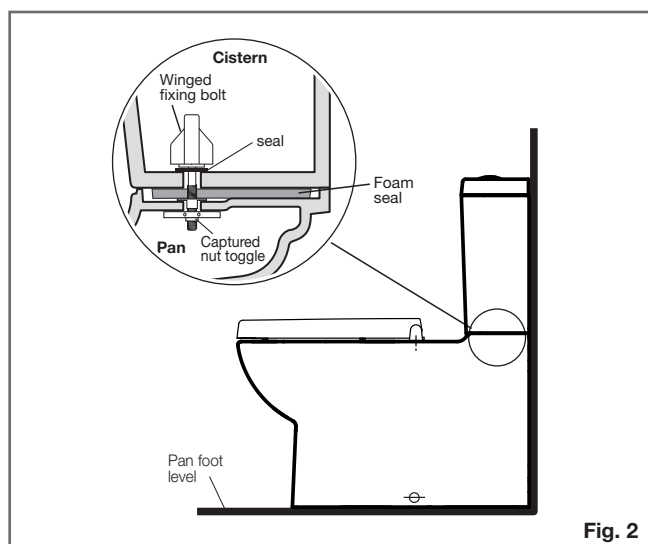

Fig. 2
- 4- Insert the winged fixing bolts through the cistern fixing holes into the threaded fixing holes located in the pan. Gradually tighten the left and right hand nuts by hand to firmly secure the cistern to pan, as detailed in Fig.2.